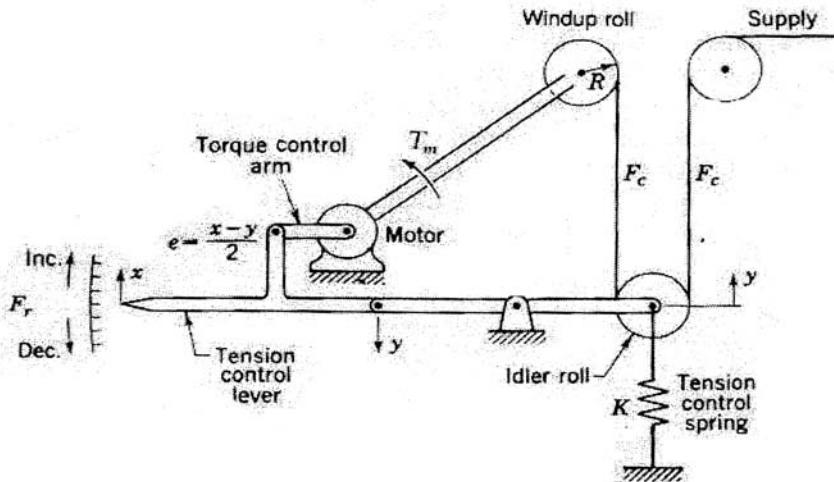

Fig. 1
- b) Fig. 1 shows a tension regulating system used in paper industry. The torque control arm of the motor provides change in torque of $T_m = K_m \cdot e / (1 + \tau D)$. For wind up roll $F_c = T_m / R$. Determine the overall block diagram relating a variation f_r of the reference or desired tension to the variation of the controlled tension f_c . 10